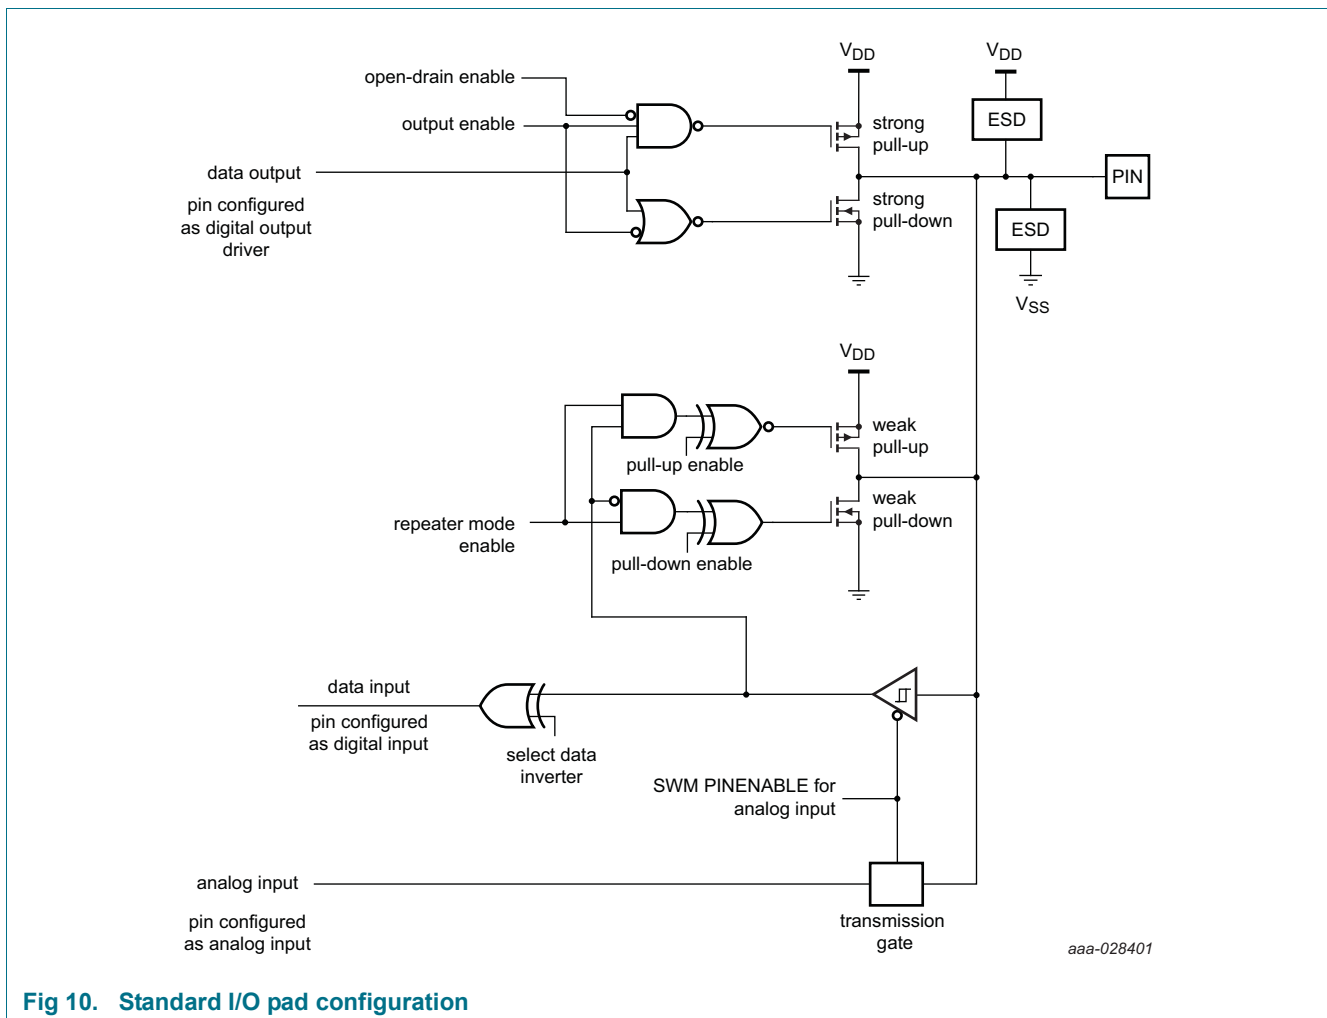

Fig 10. Standard I/O pad configuration
Figure 10 shows the possible pin modes for standard I/O pins with analog input function:
- Pull-up/pull-down configuration, repeater, and open-drain modes can be programmed through the IOCON block for each GPIO pin (see Figure 10).